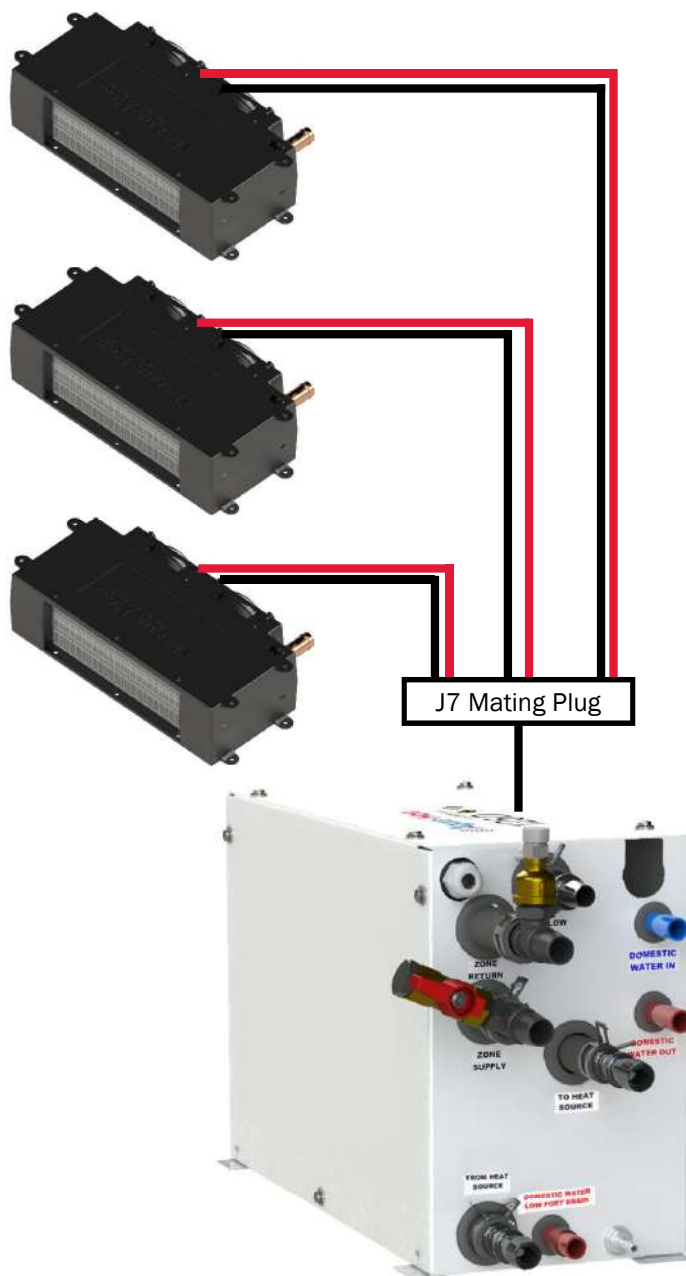

Figure 64
1. Wire each heat exchanger (one per thermostatic zone) in parallel to one another as shown in Figure 64.